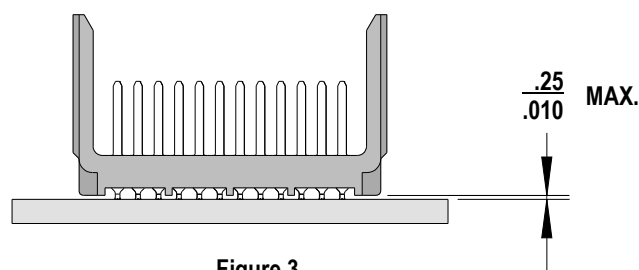

Figure 3
3. Using the application tool and an appropriate press, seat the header assembly until there is less than 0.25mm (0.01 in) clearance between the bottom of the plastic housing and the surface of the PCB. See Figure 3.